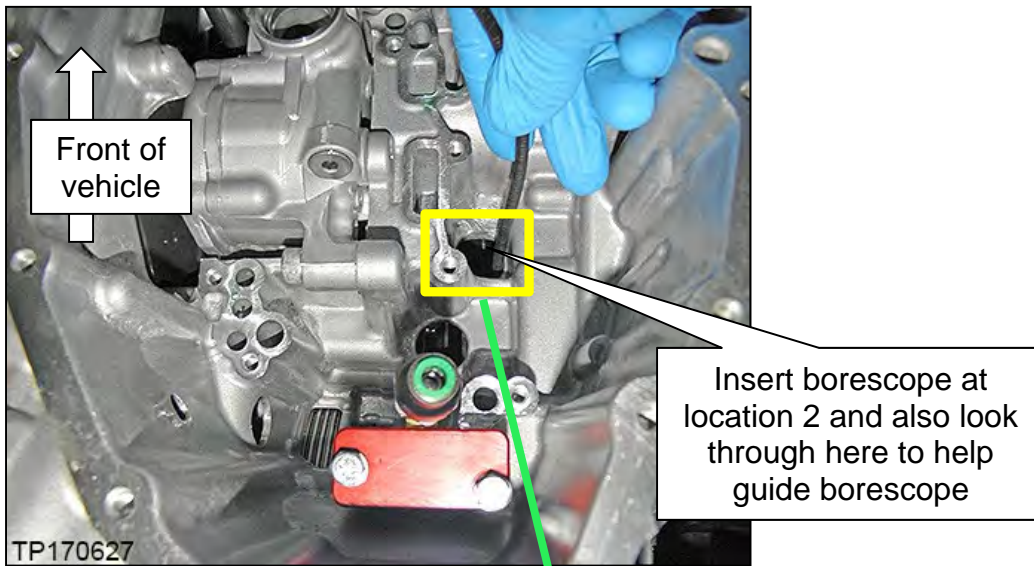
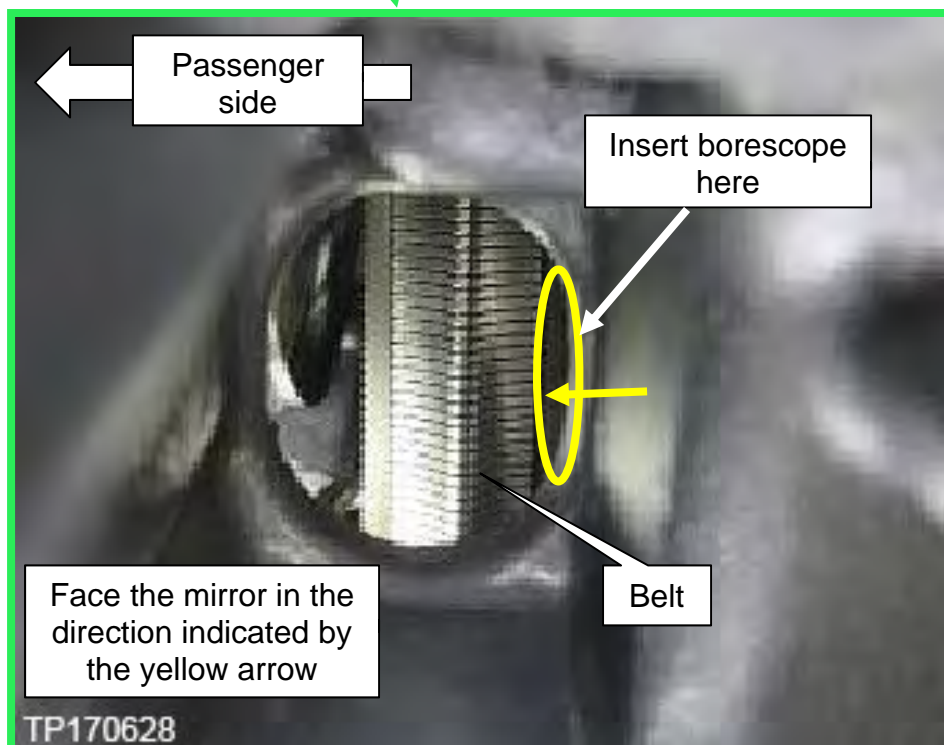

Figure 37
Figure 38
- ii. Insert the borescope in the second location where shown in Figure 37 and Figure 38.